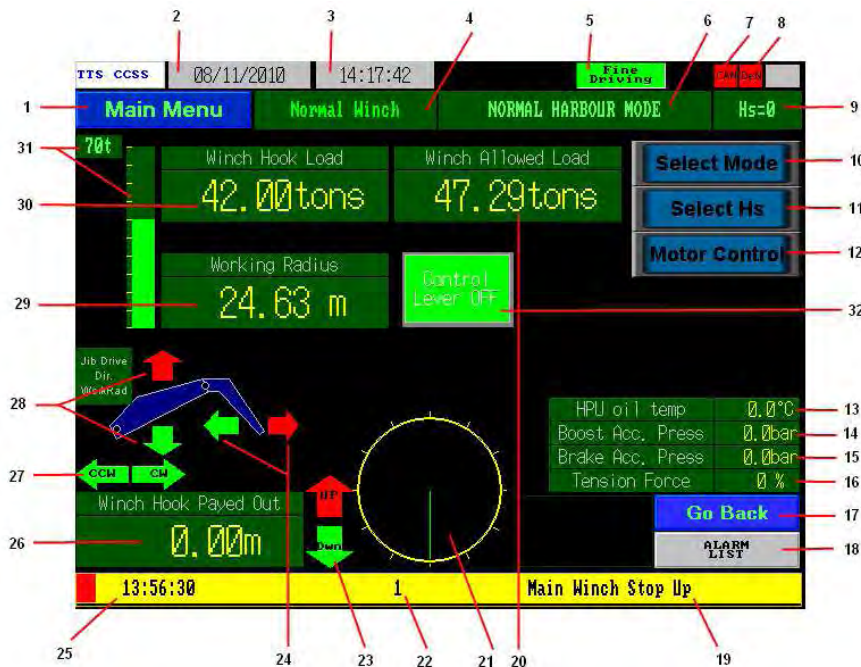

Figure 5-10 Operator's display - Operating Display
Some of fields (current date and time, last active alarm and its registration time, etc.) which are shown on the operating display page are common for different pages, they will be described on *Figure 5-10* only once.
6. Status of crane modes function: *Normal Harbour Mode* or *Open Sea, Internal Mode* / *Open Sea, External Mode*. It can be switched in appropriate conditions by selecting the mode from pos. 10 *Select Mode*.
9. Status of selected *Significant Wave Height* - *Hs*, [m]. Please note that this selection is possible only in *Open Sea Mode*. The value of *Hs* can be selected from selector button placed on Operating Display page - *Select Hs*, refer to point 9. Depending on the position of crane slew sector in *Open Sea Internal Mode* *Hs*=0.6. When *Normal Harbour Mode* is selected then *Significant Wave Height* can't be selected, it means that *Hs*=0, refer to *Figure 5-10*.